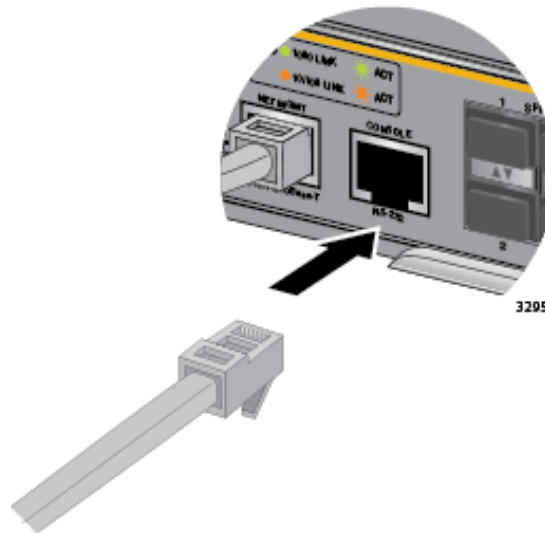

Figure 152. Connecting the Management Cable to the Console RS-232 Port
1. Connect the RJ-45 end of the management card included with the AT-SBx81CFC960 Controller Fabric Card to the Console RS-232 port on the front panel of the AT-SBx81CFC960 Controller Card, as shown in Figure 152. If the chassis has two controller cards, you may use the Console RS-232 port on either card to establish a local management session with the chassis.